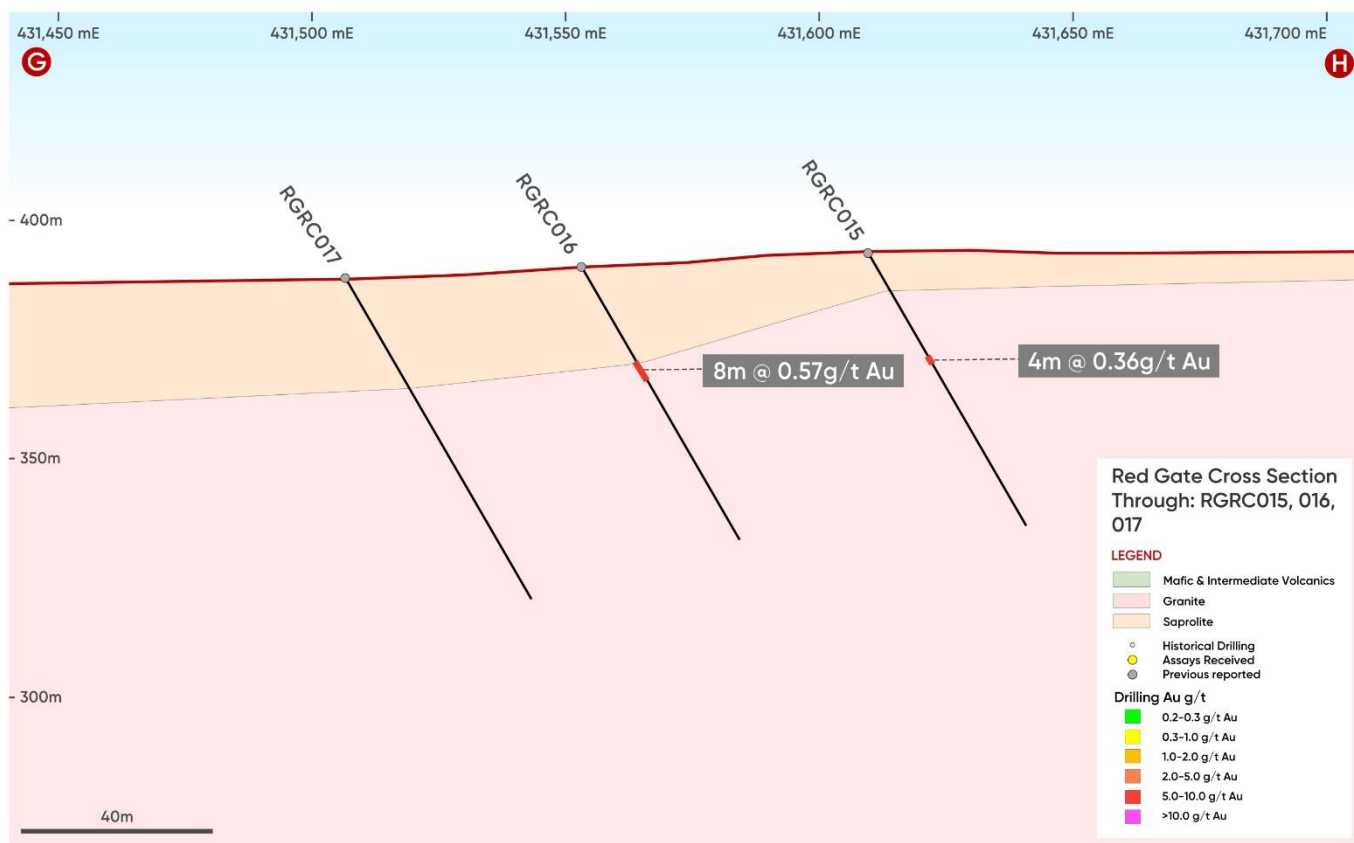

Figure 8. Cross section of Grunters drilling.
- 4m at 0.36g/t Au from 32m in RGRC015 (see Figure 8).